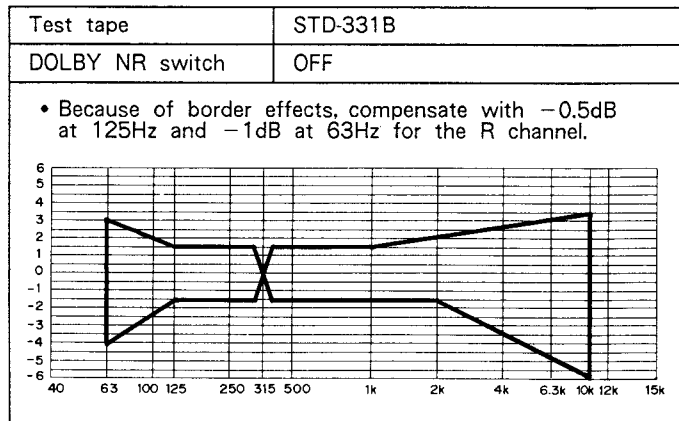

Fig. 8-5. Allowable playback frequency response zone
• Select the test tape, tape selector, and Dolby NR switch and satisfy the frequency response zone as shown in Figs. 8-5 and 8-6.